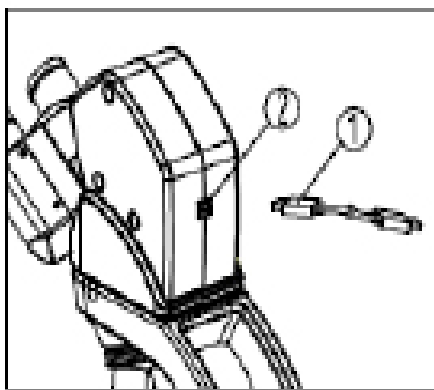

Fig. 19
Insert the connector (1) of data cable into the USB interface (2) on the back of microscope head, and insert the other connector into the USB interface of the computer (See Fig.19). View microscope video by video capture and analysis software and use binocular observation (Only for USB digital microscope.)